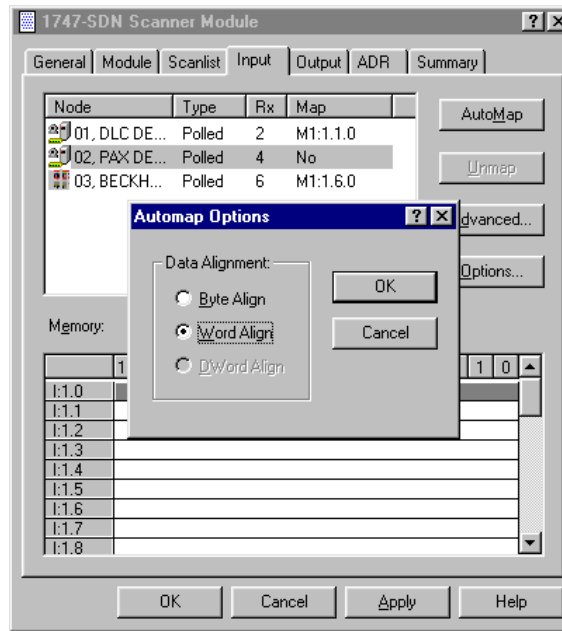

Figure 7
3. Select the **Options** key and choose the type of alignment you want to use. (Fig. 7) Note: This only effects the mapping when more than one node is automapped.